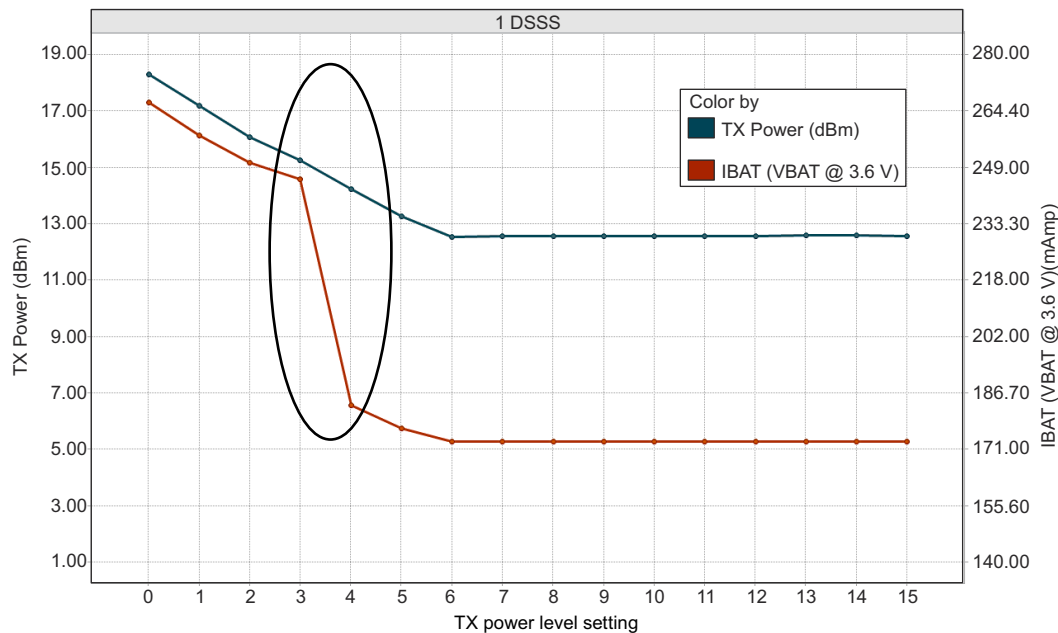
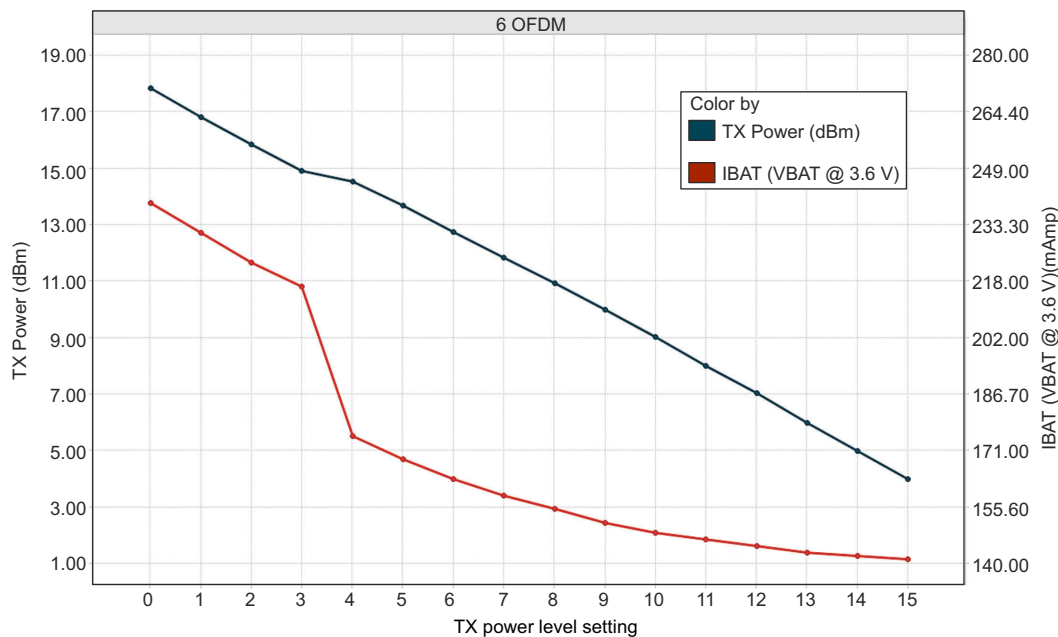
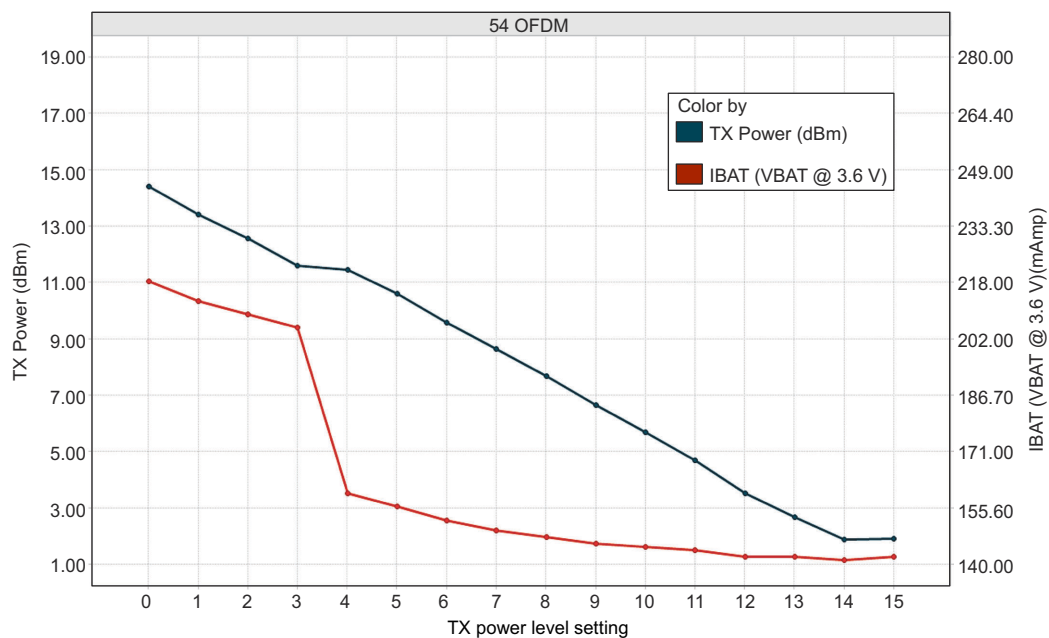

图 8-1. TX Power and IBAT vs TX Power Level Settings (1 DSSS)
图 8-2. TX Power and IBAT vs TX Power Level Settings (6 OFDM)
图 8-3. TX Power and IBAT vs TX Power Level Settings (54 OFDM)
- (1) TX power level = 0 implies maximum power (see 图 8-1, 图 8-2, and 图 8-3). TX power level = 4 implies output power backed off approximately 4 dB.
- (2) LPDS current does not include the external serial Flash. The LPDS number of reported is with retention of 256KB of MCU SRAM. The CC3220x device can be configured to retain 0KB, 64KB, 128KB, 192KB, or 256KB of SRAM in LPDS. Each 64-KB block of MCU retained SRAM increases LPDS current by 4 μA.
- (3) DTIM = 1
- (4) The complete calibration can take up to 17 mJ of energy from the battery over a time of 24 ms. In default mode, calibration is performed sparingly, and typically occurs when re-enabling the NWP and when the temperature has changed by more than 20°C. There are two additional calibration modes that may be used to reduced or completely eliminate the calibration event. For further details, see CC3120, CC3220 SimpleLink™ Wi-Fi® and IoT Network Processor Programmer's Guide.
- (5) The CC3220x system is a constant power-source system. The active current numbers scale based on the V_{BAT} voltage supplied.
- (2) LPDS current does not include the external serial flash. The LPDS number of reported is with retention of 256KB of MCU SRAM. The CC3220x device can be configured to retain 0KB, 64KB, 128KB, 192KB, or 256KB of SRAM in LPDS. Each 64-KB block of MCU retained SRAM increases LPDS current by 4 µA.
- (4) The complete calibration can take up to 17 mJ of energy from the battery over a period of 24 ms. Calibration is performed sparingly, typically when coming out of HIBERNATE and only if temperature has changed by more than 20°C. The calibration event can be controlled by a configuration file in the serial Flash..
图 8-1, 图 8-2, and 图 8-3 show TX Power and IBAT versus TX power level settings for the CC3220R and CC3220S devices at modulations of 1 DSSS, 6 OFDM, and 54 OFDM, respectively. For the CC3220SF device, the IBAT current has an increase of approximately 10 mA to 15 mA depending on the transmitted rate. The TX power level will remain the same.
In 图 8-1, the area enclosed in the circle represents a significant reduction in current during transition from TX power level 3 to level 4. In the case of lower range requirements (14-dBm output power), TI recommends using TX power level 4 to reduce the current.